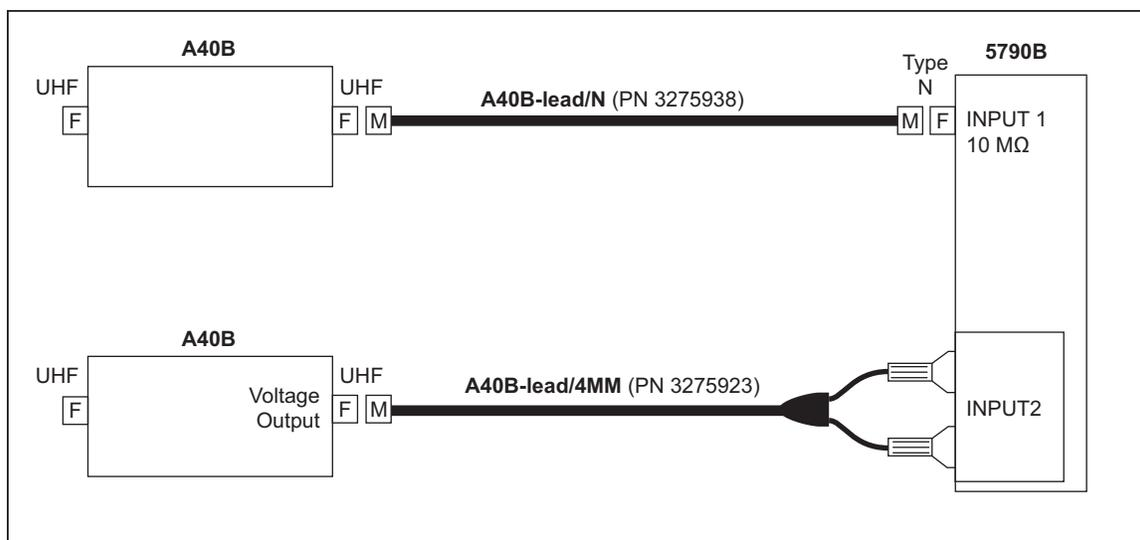
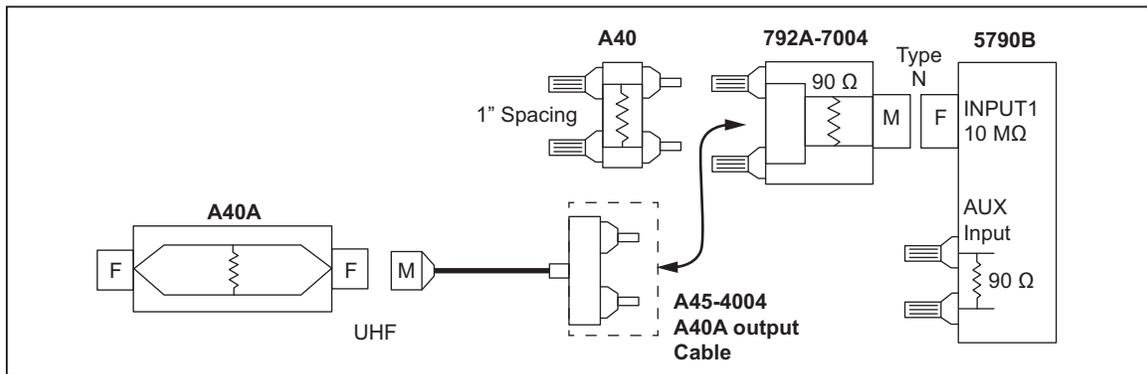

Figure 4-3. Measuring Absolute Current Using A40B
Figure 4-4. Measuring Relative Current Using 792A-7004
Use accessory 792A-7004 to connect the Fluke A40/A40A Current Shunts to INPUT 1 and make current measurements, see Figure 4-4. The 792A-7004 has an internal  $90\ \Omega$  resistor for direct connection to the A40/A40A current shunts for relative current measurements.
To use the INPUT 1 and the 792A-7004 the adapter, see Figure 4-4:
Use the 5790B-7001 accessory to connect the Fluke A40 or A40A Current Shunts to the Product AUX input to make current transfers up to 20 A (see Figure 4-4). The Product AUX Input is internally terminated with a 90 Ω resistor that allows for direct connection to current shunts. Connection to A40 and A40A Current Shunts requires the 5790A-7001 accessory which consists of an adapter and cable. The cable is approximately 36 inches long and has a male terminal plug on one end and a UHF (M) connector on the other. This cable connects between the Product AUX Input and the A40A Current Shunt or the adapter (see Figure 4-3). The adapter has a UHF (F) connector on one end and one-inch spaced female banana jacks on the other. This one-inch spacing allows for connection to the A40 Current Shunt.